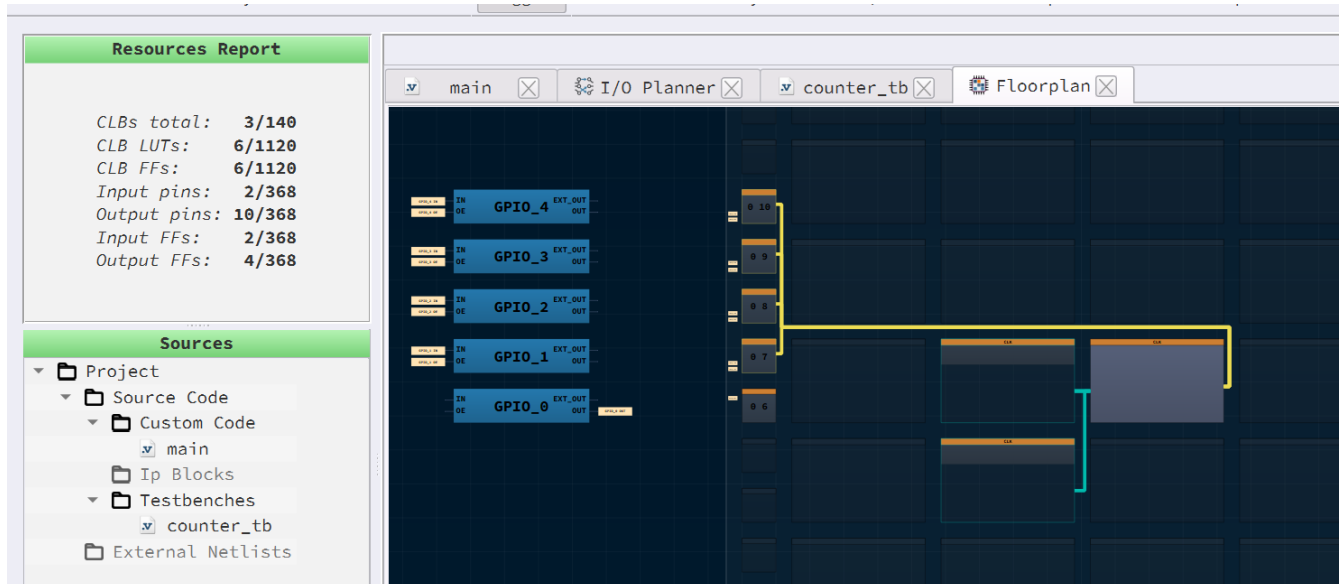

Figure 13: Floorplan
- Select the Generate Bitstream button on the lower left side of the FPGA editor. Check the Logger and Issues tabs to make sure that the bit stream was generated correctly. Now click on the Floorplan tab and see the CLB utilization Press the Ctrl and the mouse wheel to zoom-in. Confirm that the IOs selected in the IO Planner (Figure 14). are shown in the floorplan (Figure 13). The IO Planner has been set in such a way that the board uses an external clock instead of the OSC clock on-board.